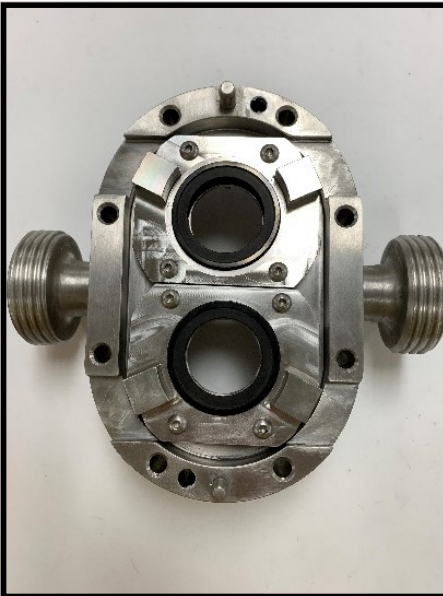

Figure 100 Seals installed
5. Figure 100 (left again) shows both seals installed.